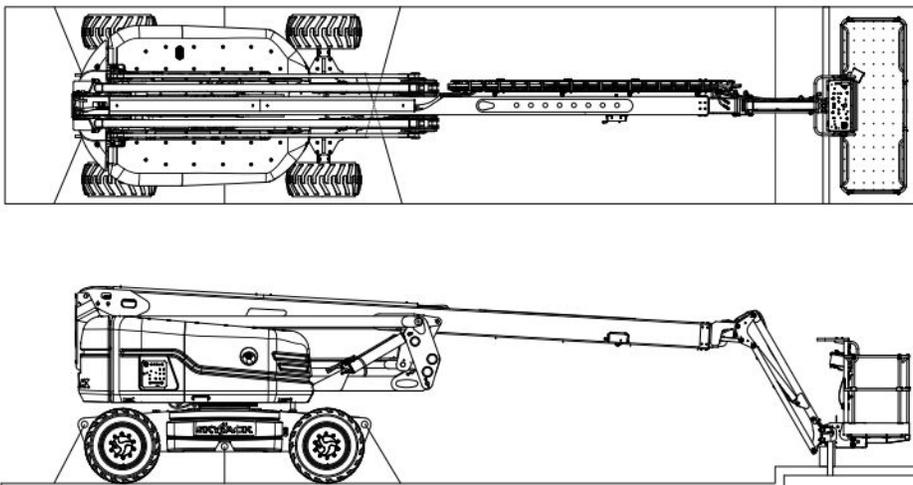

Figure 31 Tie-down points
8. Place block underneath platform rotator and gently lower rotator onto block and secure in place. Strap must be secured underneath hoses and cables to avoid damage to MEWP (refer to Figure 31). Do not use excessive downward force when securing platform.